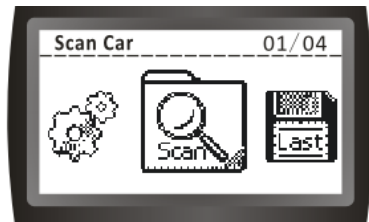

Figure 18
5. If the vehicle Diagnostic Protocol is OBD-II/EOBD-II, But the DTC Code is **MANUFACTORY**, Please press UP or DN button, then press yes, the screen will change to: (Figure 18)